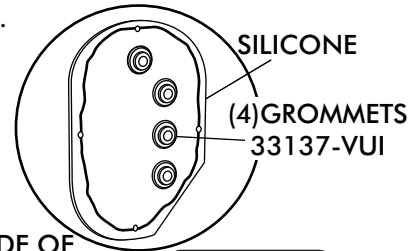

FIGURE 6b
- ☐ INSTALL (4) GROMMETS IN KICK PANEL COVER, SEE FIGURE 6b BELOW.
- ☐ APPLY A 1/4" BEAD OF SILICONE AROUND THE BACK SIDE OF KICK PANEL COVER AS SHOWN IN FIGURE 6b, BELOW.